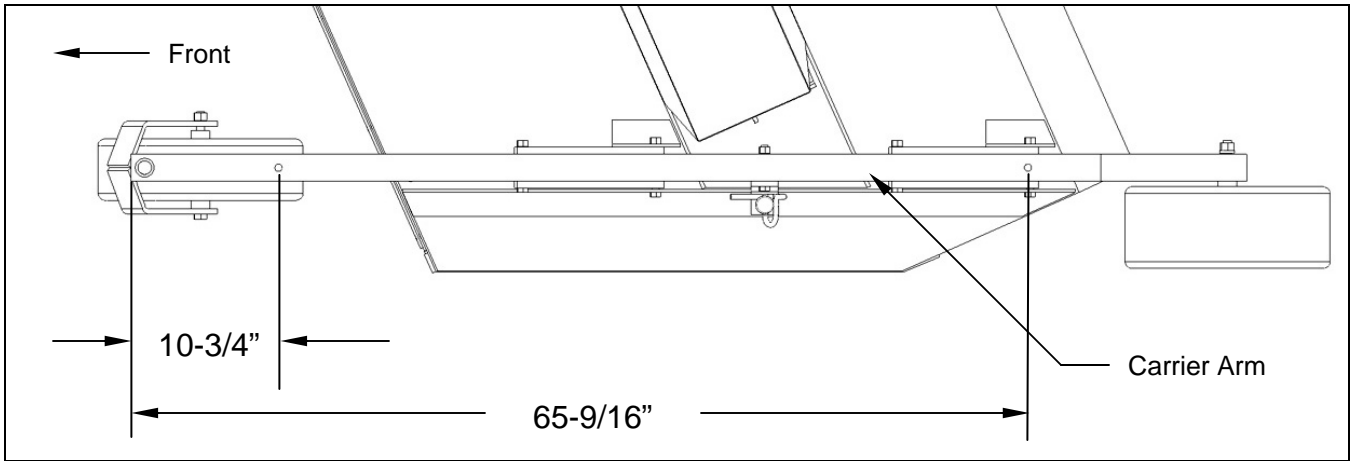

Figure 1. Carrier Arm Hole Location
A. CARRIER ARM PREPARATION (Refer to Figure 1)
1. For models that already have mounting holes present, section A. can be omitted. For models with the electric lift kit installed or any 44" rough cut models, refer to section E. For models without mounting holes, locate the hole positioning according to figure 1. The measurement should be taken from the front edge of the carrier arm and extend to the center of each hole. The front hole should be at a distance of 10-3/4" from the front edge of the carrier arm and the rear hole should be 65-9/16" from the front edge of the carrier arm. Hole positioning will need to be located on both the left and right carrier arms.